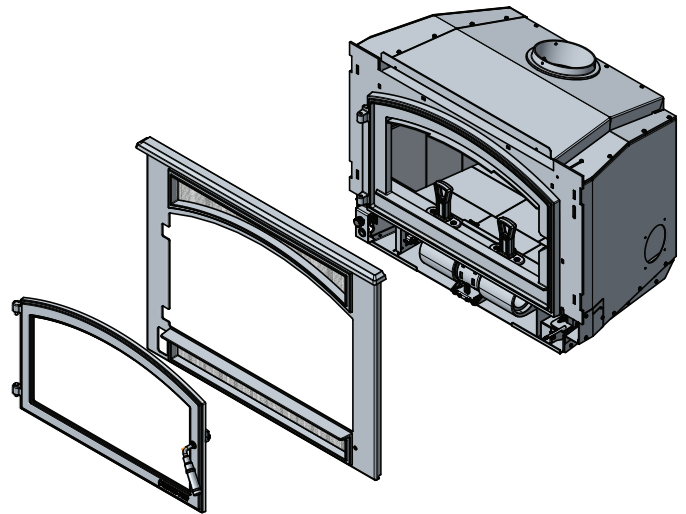

Figure 21.2
2. Remove door from front of appliance and set aside laying it onto a protective surface (**Figure 21.2**).
3. Remove face from front of appliance and set aside laying it onto a protective surface (**Figure 21.2**).